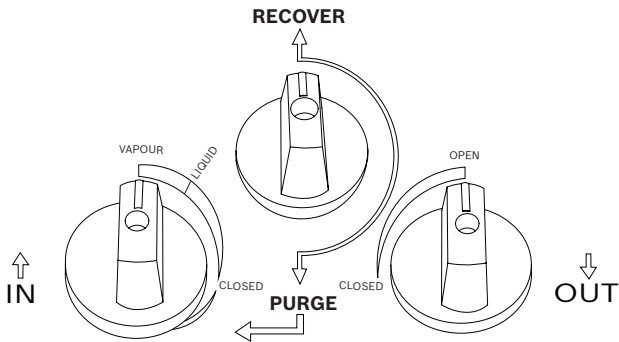

Fig. 2: Valve positions for normal recovery
3. Before making any hose connections, ensure that A/C or refrigeration system service valves, manifold gauge set valves, recovery unit control valves and recovery tank valves are all in the closed position. Also, make sure that the recovery / purge valve is in the **RECOVER** position (pointed upwards). Refer to Fig. 2.
11. Turn the recovery machine Inlet (blue) control valve to the **LIQUID** marking on the front panel, refer to Fig 2. Rotate the Master Switch to the **ON** position to start the recovery.
3. Before making any hose connections, ensure that system service valves, recovery unit control valves and recovery tank valves are all in the closed position. Also, make sure that the recovery / purge valve is in the **RECOVER** position (pointed upwards). Refer to Fig. 2.